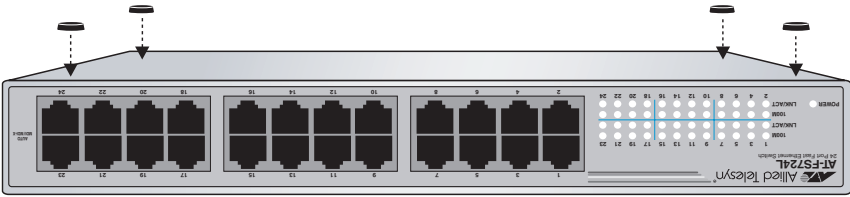

Figure 4 Attaching the Rubber Feet
2. Attach the four protective feet to the bottom of the unit. See Figure 4.